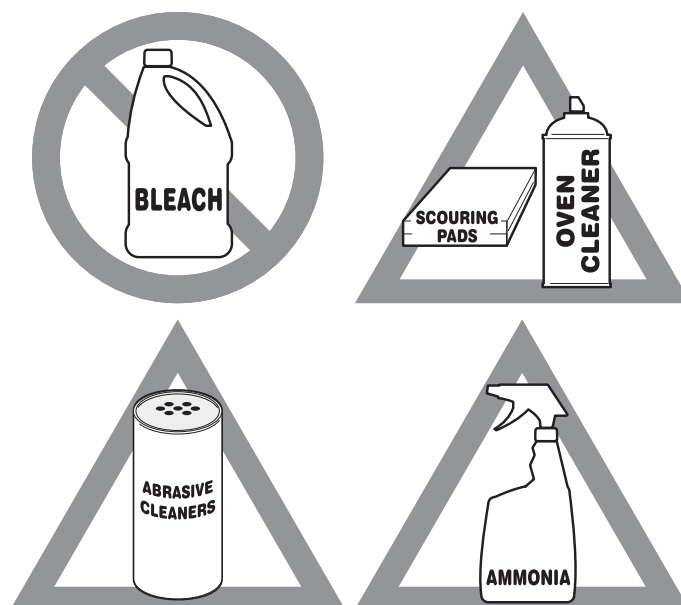

Figure 12: Use cleaners with caution
1. Open oven door completely, horizontal with floor (Figure 12).
3. Fully open the oven door, horizontal with floor (Figure 12).